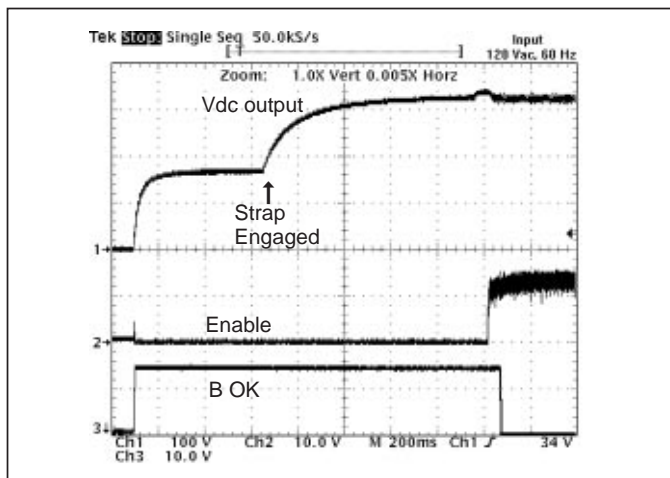
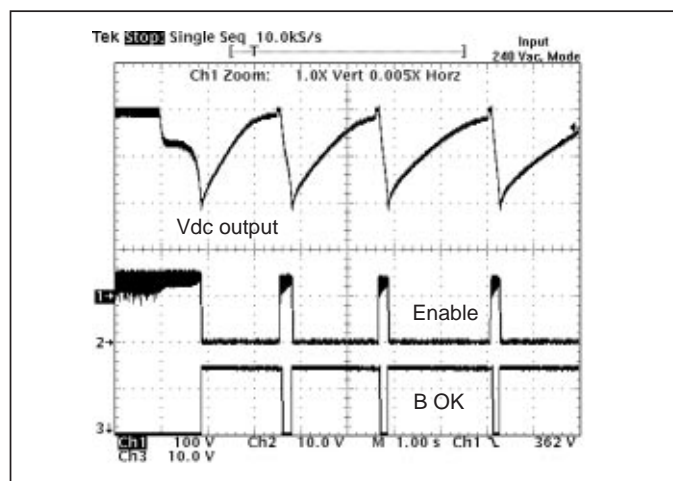

Figure 3—Start-up at 120Vac input
Figure 7—Output overvoltage protection 240Vac range
■ FARM3 MODULE SPECIFICATIONS (see Figure 3 thru Figure 7 for operating characteristics)